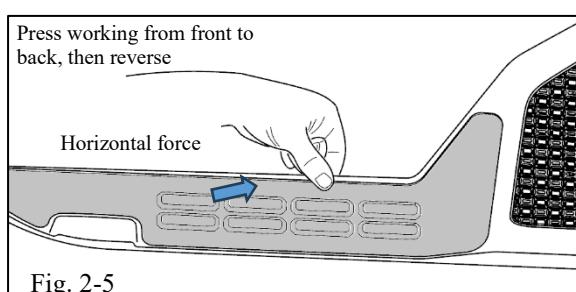

Fig. 2-5
- (f) Again, using 2 fingers, but this time with a force in the horizontal direction, pinch the door panel pocket and Protector in a continuous slow motion along the entire top edge from front to back (Fig 2-5). Once complete, reverse direction and repeat working from back to front.
(f) Again, as in Fig 2-5, using 2 fingers, but this time with a force in the horizontal direction, pinch the door panel pocket and Protector in a continuous slow motion along the entire top edge from front to back. Once complete, reverse direction and repeat working from back to front